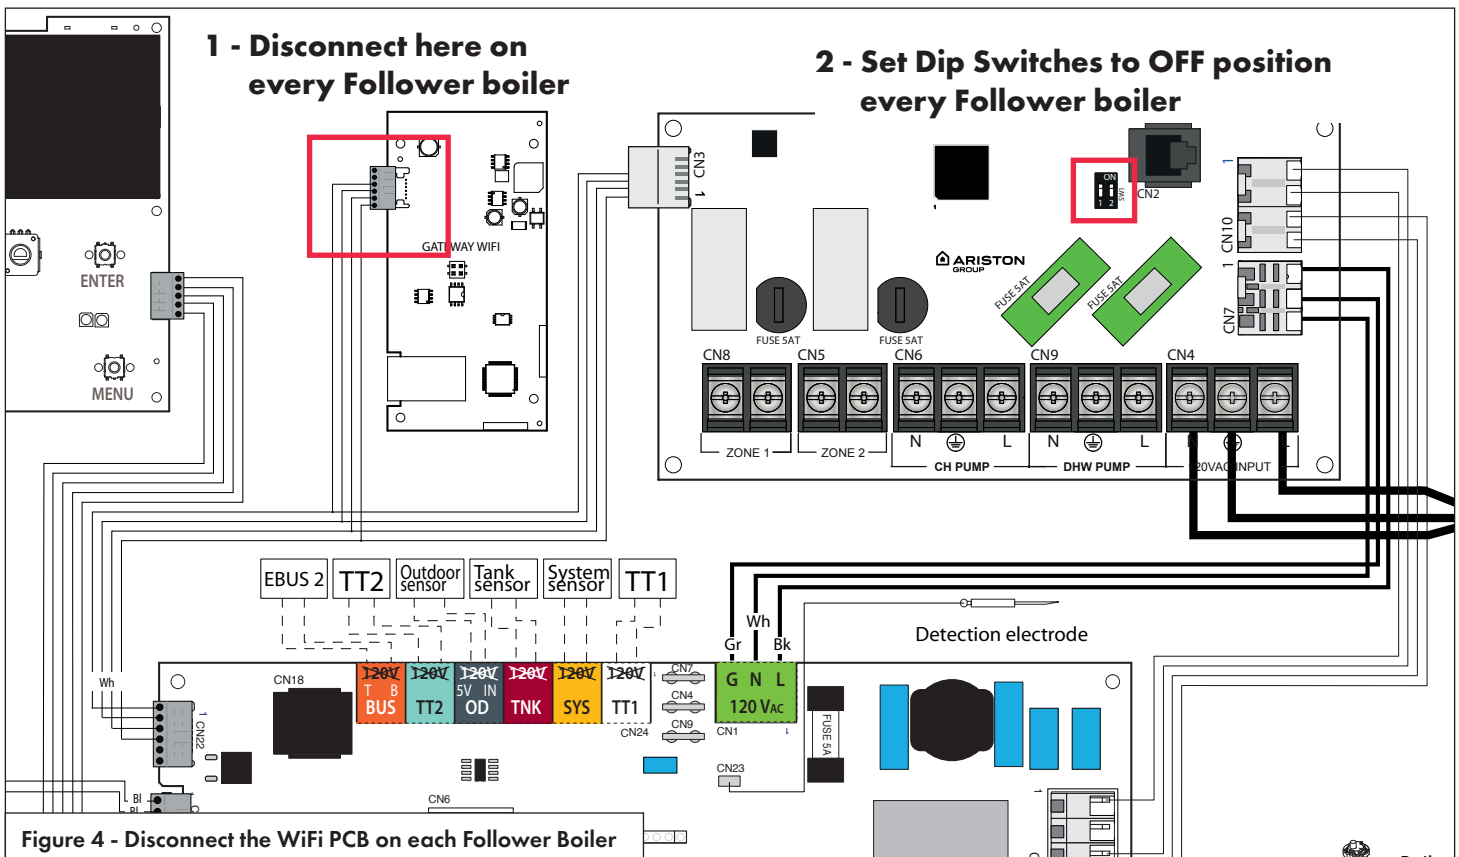

Figure 4 - Disconnect the WiFi PCB on each Follower Boiler
- 1. Disconnect WiFi Cable from Follower Boilers** – Permanently disconnect and remove the WiFi Cable from each Follower boiler; only the Manager boiler can be connected to WiFi – see Figure 4. Connecting more than one WiFi module will result in a BUS network communication error.
- 2. Configure Junction Box Dip Switches** – move the dip switches to the OFF position at the junction box (2 - Figure 4) of each Follower boiler. Dip switches at the Manager boiler must remain in the factory ON position. See Figures 1-3.